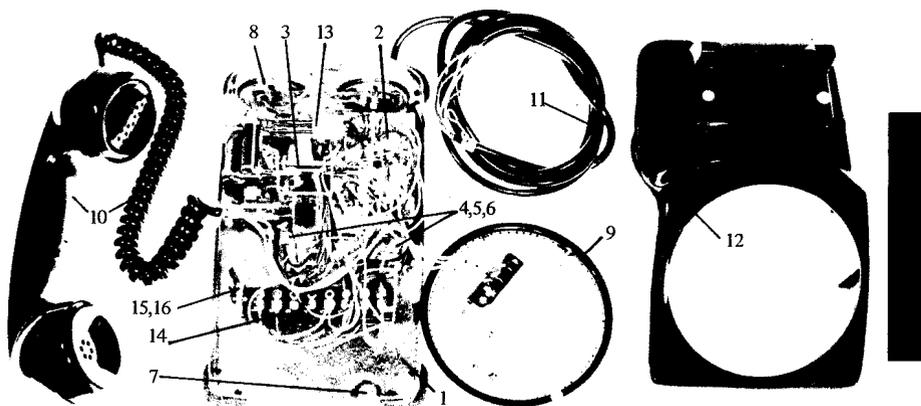
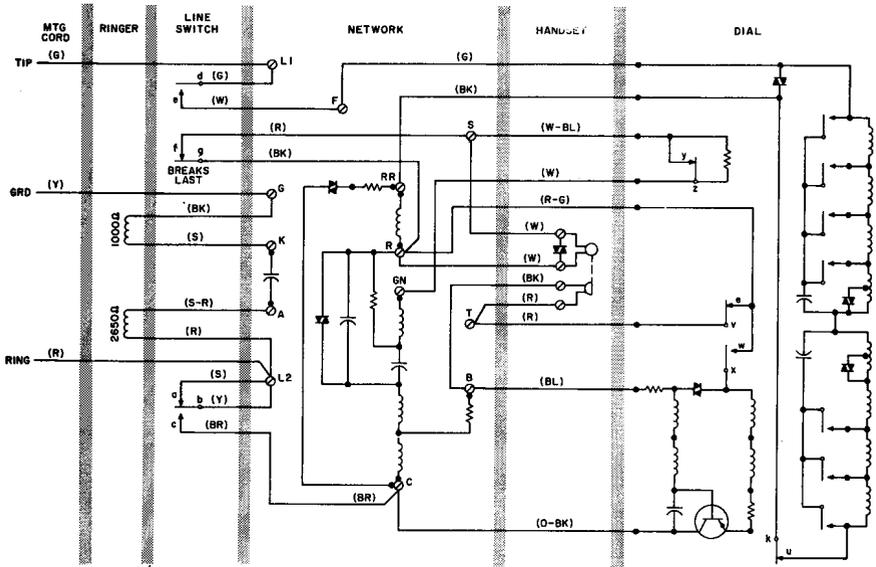

Fig. 1 TOP VIEW - HOUSING REMOVED
FIGURE 2. 2500*(BA) 33M Telephone Set Connections
1.02 Figure 1 shows a top view and parts identification while Figures 2 and 3 show the connections necessary for installation.